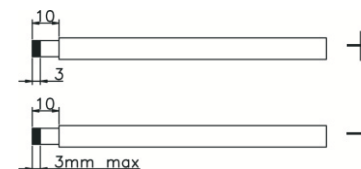

Figure 6.2
Step 3: Remove insulation sleeve 10 mm for positive and negative conductors. Refer to Figure 6.2.